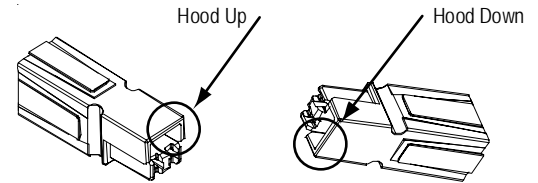
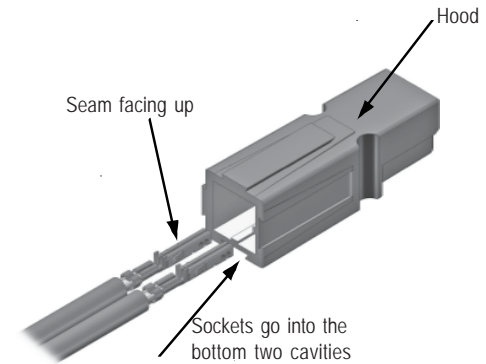
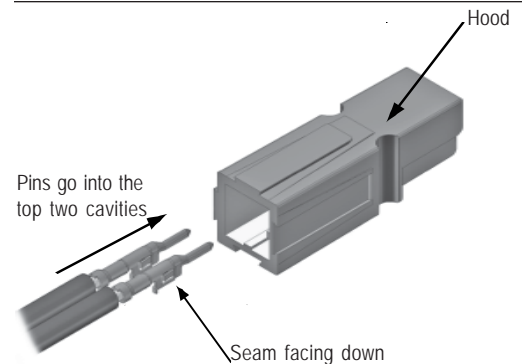

Figure 2
Figure 3
Figure 4
2. Insert Socket contacts first: Holding the connector in the "Hood Up" orientation (See Figure 2), position the crimped contact so that the contact seam is facing up (See Figure 3). The Socket contacts are inserted into the bottom holes. A tactile snap will be felt when contact is latched. Apply a slight tug to confirm latching. Contact retention should be 5.4 lbf (24N) minimum. Note that if the wire is rotated during insertion, so that the contact seam is not facing up, the contact will not insert properly into the housing.
3. Next insert the Pin contacts: Holding the connector in the "Hood Up" orientation (See Figure 2), position the crimped contact so that the contact seam is facing down (See Figure 4). The Pin contacts are inserted into the top holes. A tactile snap will be felt when contact is latched. Apply a slight tug to confirm latching. Contact retention should be 5.4 lbf (24N) minimum. Note that if the wire is rotated during insertion, so that the contact seam is not facing down, the contact will not insert properly into the housing.